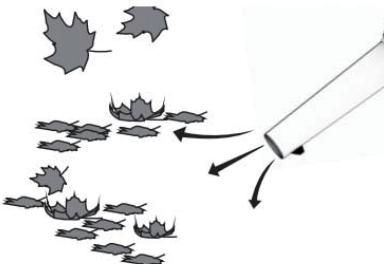

Fig. 7
USING THE BLOWER (Fig. 7)
- Use a sweeping motion from side to side. Advance slowly keeping the accumulated debris/leaves in front of you. (Fig. 7)